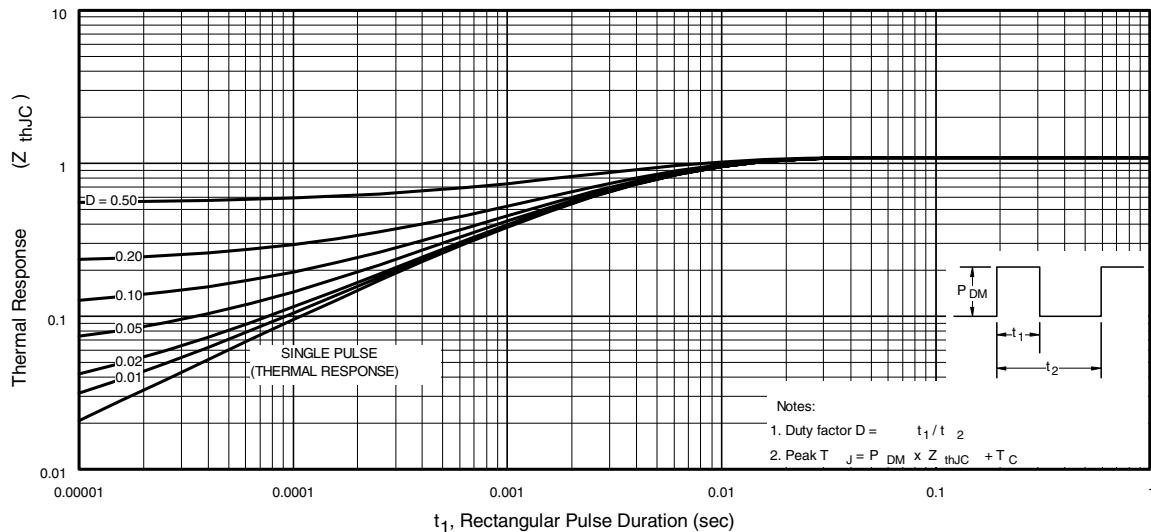
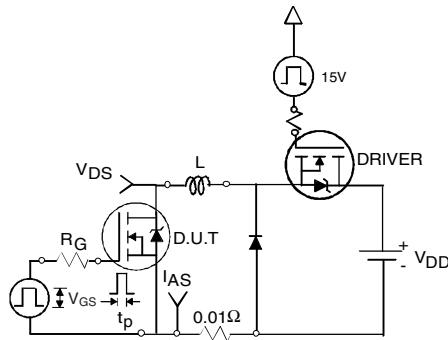

Fig 11. Maximum Effective Transient Thermal Impedance, Junction-to-Case
Fig 12a. Unclamped Inductive Test Circuit
3. Equation below based on circuit and waveforms shown in Figures 12a, 12b.
$Z_{thJC}(D, t_{av})$ = Transient thermal resistance, see figure 11)
- ① Repetitive rating; pulse width limited by max. junction temperature. (See fig. 11).
- ② Limited by T_{Jmax} , starting $T_J = 25^\circ C$, $L = 0.52mH$, $R_G = 25\Omega$, $I_{AS} = 30A$, $V_{GS} = 10V$. Part not recommended for use above this value.
- ③ $I_{SD} \leq 30A$, $di/dt \leq 170A/\mu s$, $V_{DD} \leq V_{(BR)DSS}$, $T_J \leq 175^\circ C$.
- ④ Pulse width
- ⑤ $C_{oss\ eff}$ is a fixed capacitance that gives the same charging time as C_{oss} while V_{DS} is rising from 0 to 80% V_{DSS} .
- ⑥ Limited by T_{Jmax} , see Fig.12a, 12b, 15, 16 for typical repetitive avalanche performance.
- ⑦ This value determined from sample failure population. 100% tested to this value in production.
- ⑧ When mounted on 1" square PCB (FR-4 or G-10 Material). For recommended footprint and soldering techniques refer to